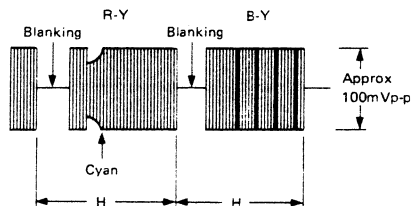

Figure 1.
3. Adjust LM51 for the flat level of amplitude in each colour bar waveform on the scope. (See figure 1.)